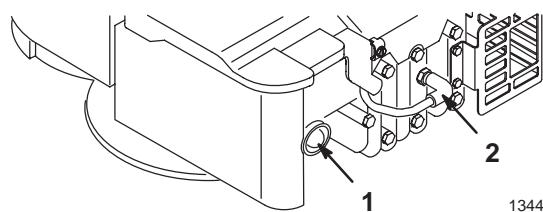

Figure 7
1. Connect the wire to the spark plug (Fig. 7).
2. Push in the primer 3 times, waiting one second between each push (Fig. 7).
1. Disconnect the wire from the spark plug (Fig. 7).